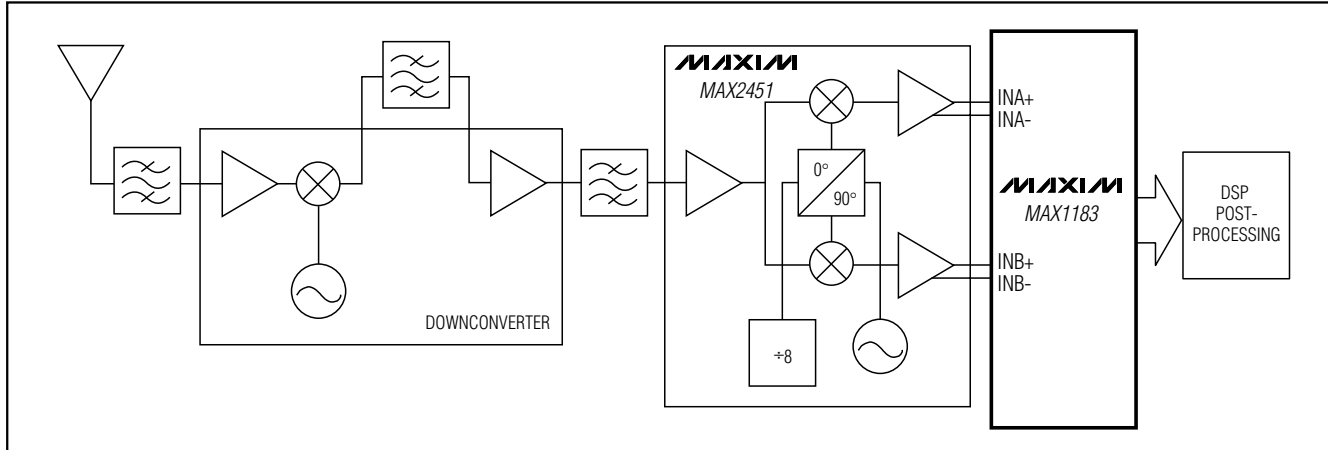

Figure 8. Typical QAM Application, Using the MAX1183
quadrature (Q) carrier component, where the Q component is 90-degree phase-shifted with respect to the in-phase component. At the receiver, the QAM signal is divided down into its I and Q components, essentially representing the modulation process reversed. Figure 8 displays the demodulation process performed in the analog domain, using the dual matched +3V, 10-bit ADC MAX1183 and the MAX2451 quadrature demodulator to recover and digitize the I and Q baseband signals. Before being digitized by the MAX1183, the mixed-down signal components may be filtered by matched analog filters, such as Nyquist or pulse-shaping filters, which remove any unwanted images from the mixing process, thereby enhancing the overall SNR performance and minimizing intersymbol interference.